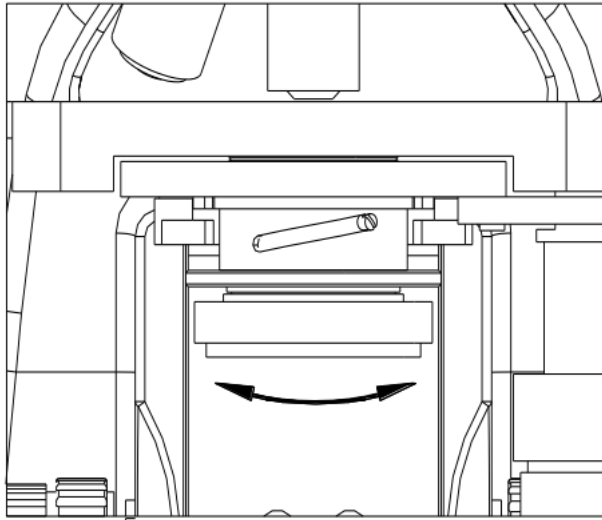

Fig.16
2. Turn the condenser clockwise or counterclockwise to change the height of the condenser (See Fig. 16).